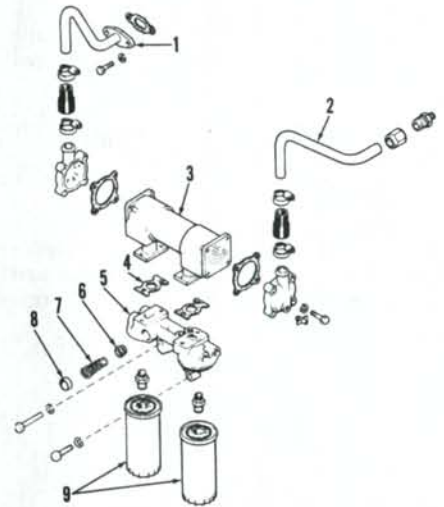

Fig. 64—Exploded view of dual oil filter assembly and heat exchanger assembly.
70. The engine oil cooler is horizontally mounted to oil filter manifold (5—Fig. 64) located on right side of engine. Removal and disassembly of unit is obvious after examination of unit and reference to Fig. 64. Inspect oil bypass valve (6) for freeness in its bore.